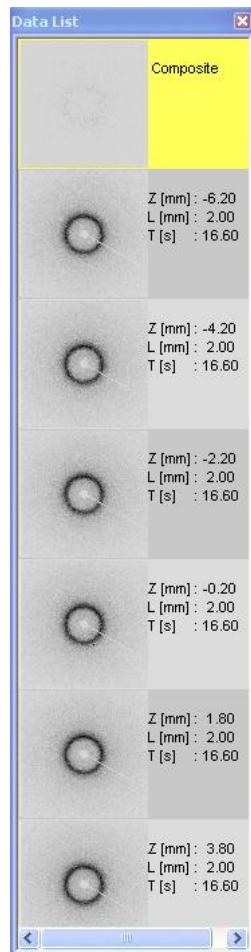

Figure 27 Data List window - X-Ray Image
- Composite crystal X-Ray image. In this case, the individual frames of the X-ray image are displayed adjacent to their scan angles (Figure 27)